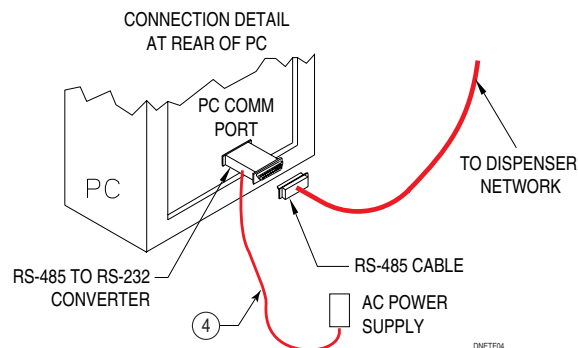
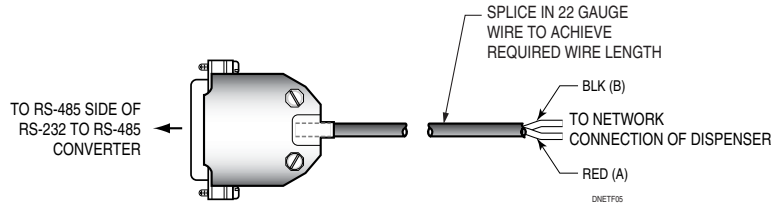

Figure 4. Network to Local PC Connection Using Converter
Figure 5. RS-485 Cable
You may need to lengthen your RS-485 cable to accommodate the new network. Use a 22-gauge (CSA mm2) twisted pair cable. Refer to **Figure 5** for exact wiring details.
1. Refer to **Figure 4**. Connect the 25-pin D connector end of the cable to the RS-485 side of the Converter. You may need to lengthen your RS-485 cable to accommodate the new network. Use a 22-gauge (CSA mm2) twisted pair cable. Refer to **Figure 5** for exact wiring details.